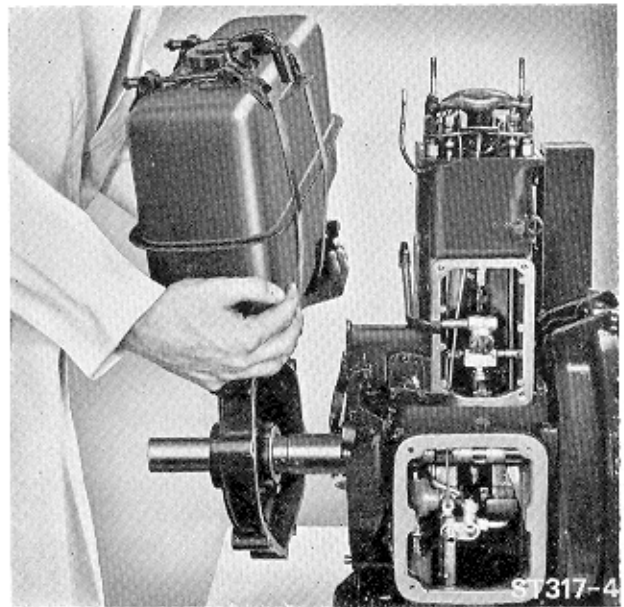

Fig. 17. Removing Tank and End Cover
#### FUEL TANK (Fig. 17)
- (f) Remove gear case end cover; this is to check governor setting if required. If an engine mounted fuel tank is fitted, remove leak-off pipe to top of tank, disconnect strap to cylinder head cover and remove fuel feed pipe at base of tank. With keyway on camshaft extension at the bottom position, remove tank, filter and end cover complete (Fig. 17).